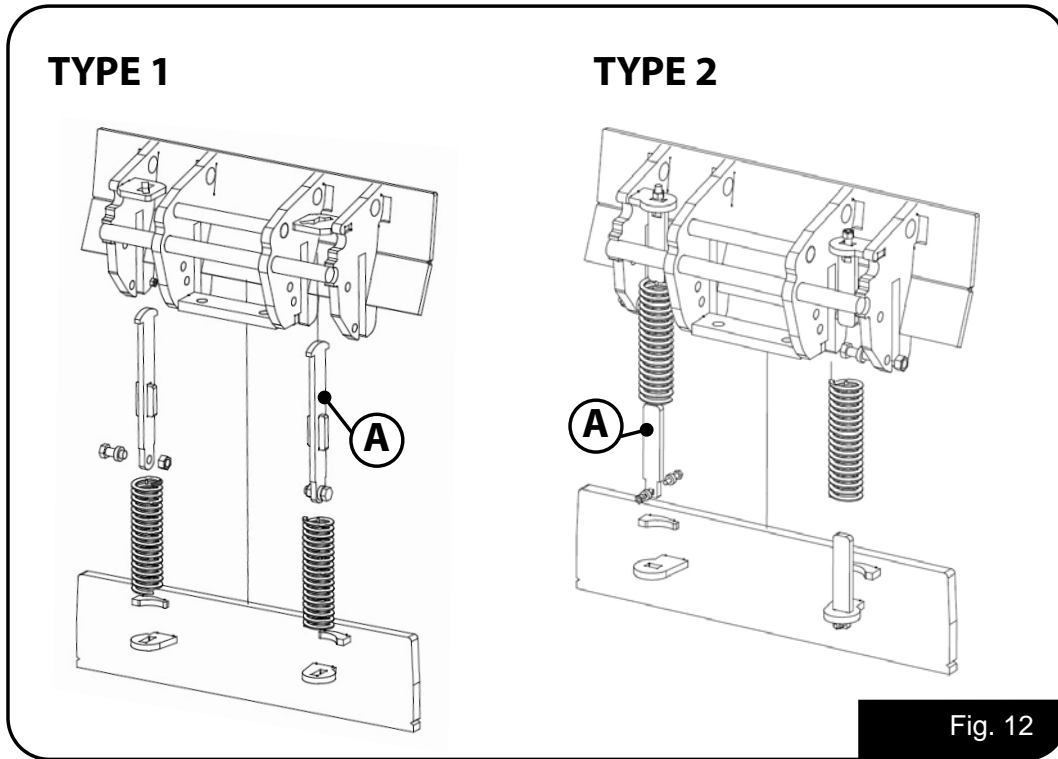

Fig. 12
Referring to Figure 12, the must may identify one of the two (2) types of cutting edges and trip system used by this model/equipment. The user must identify this system before performing maintenance.